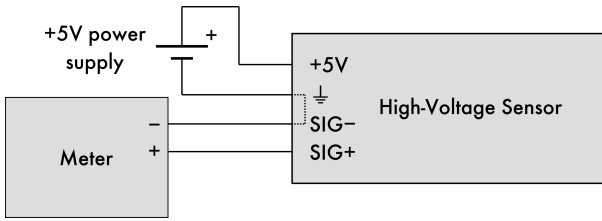

Figure 2: Recommended 4-pin Terminal Wiring
4. When using a traditional meter without CTid[®] support, wire the 4-pin terminal plug as shown in Figure 2. As indicated by the dotted line, the SIG- pin is internally connected to the \equiv pin of the sensor. However, for accuracy, it is important to use separate wires to those two pins, as shown in the figure.